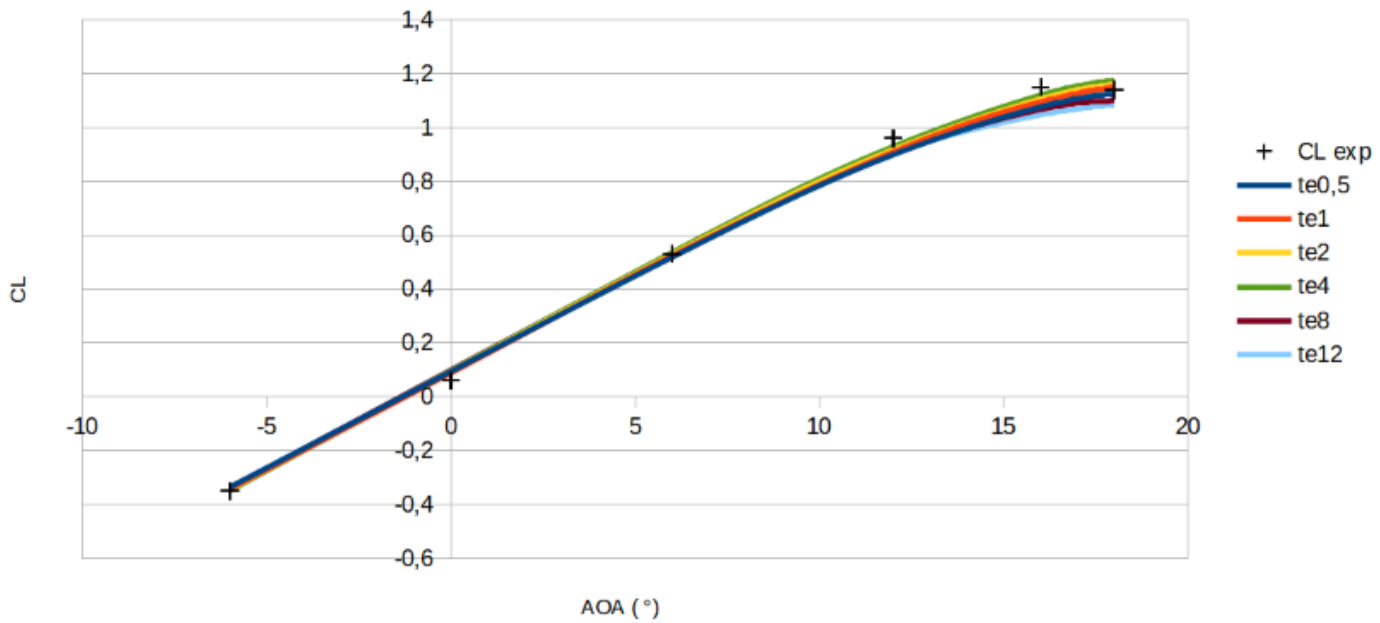

Figure 65: CL w.r.t AoA.
**Captions for figures 65 and 66 :**